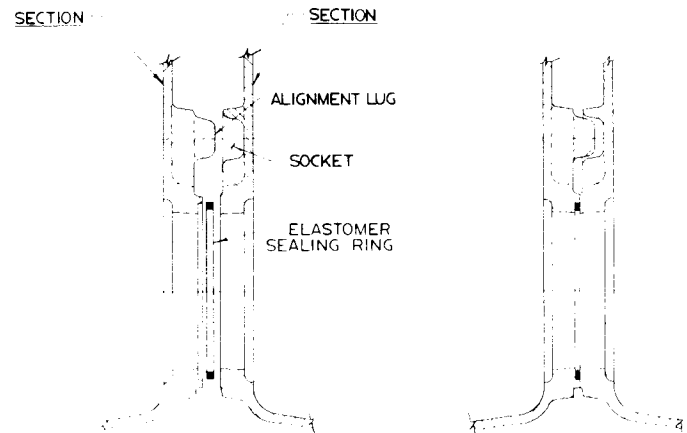

FIGURE 4
- a. Position the intermediate section so that the aligning lugs will fit into the sockets of the section (see FIGURE 4). Oil the threads of four (4) of the draw rods ($\frac{5}{8}$ " x 9") and slip them through the lugs on the top and sides of each section. Place a washer (only one washer per draw rod) under each nut to be tightened. Put a drop of oil between washer and nut.